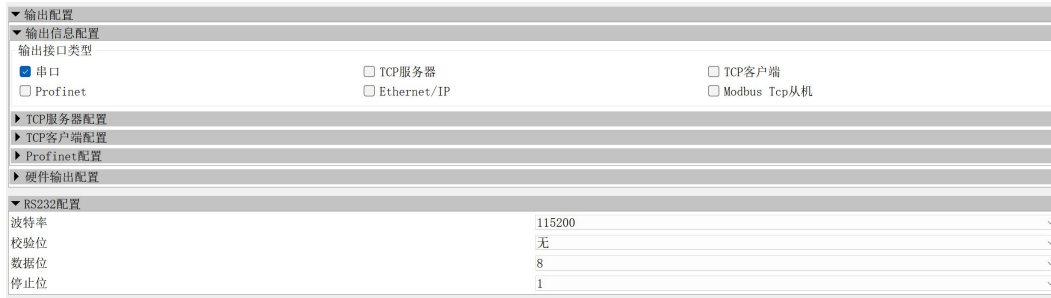

Fig56. Serial port output
2. In the RS232 configuration, select the corresponding RS232 serial port parameter, reference Fig 56.